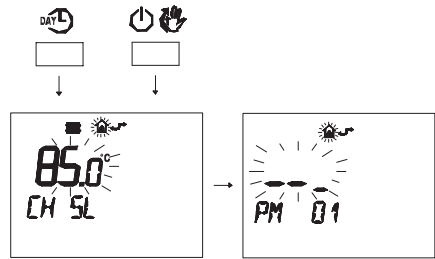

Fig. 7.33
- Press buttons **DAY** and **POWER** at the same time to enter transparent programming (Fig. 7.33).